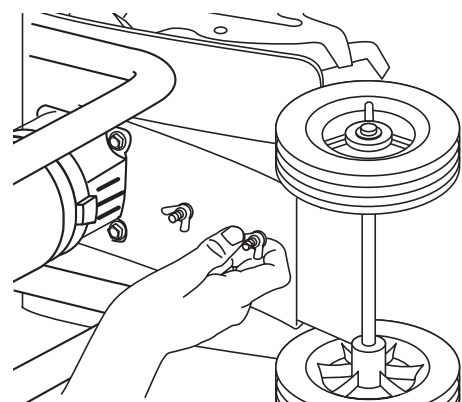

Fig. 4
4. Make sure the square shoulder of the bolts is pushed through the slotted holes in the wheel bracket. Tighten the wing nuts (Fig. 4).